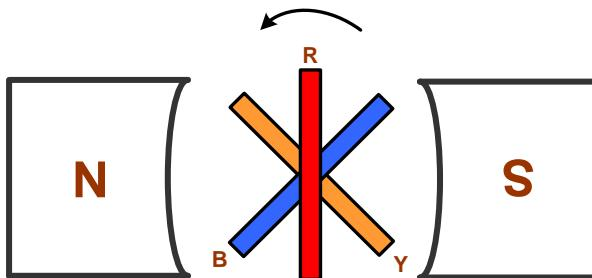

Figure 2.44 Generation of three phase emf
- Now, we consider 3 coil  $C_1$ (R-phase),  $C_2$ (Y-phase) and  $C_3$ (B-phase), which are displaced  $120^\circ$  from each other on the same axis. This is shown in fig. 2.44.